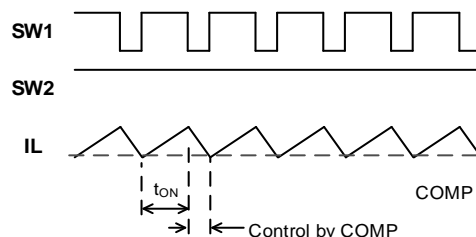

Figure 5: Buck Waveform
SWA turns on. SWA turns on for a fixed on-time period before turning off. Then SWB turns on again, and the operation repeats. The COMP signal is the error amplifier (EA) output from the V_{OUT} feedback and internal FB reference voltage (see Figure 5).